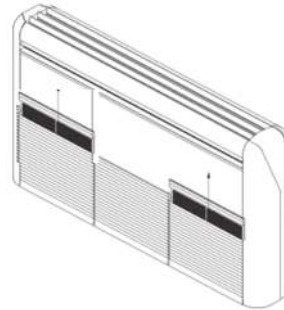

Figure 21
(1) The CFFWA4P contains a hot and cold-water coil. The cold-water coil piping connections are located behind the lower right-hand side of the return grille. The hot water coil piping connections are located behind the lower left-hand side of the return grille. See figure 21 and 22